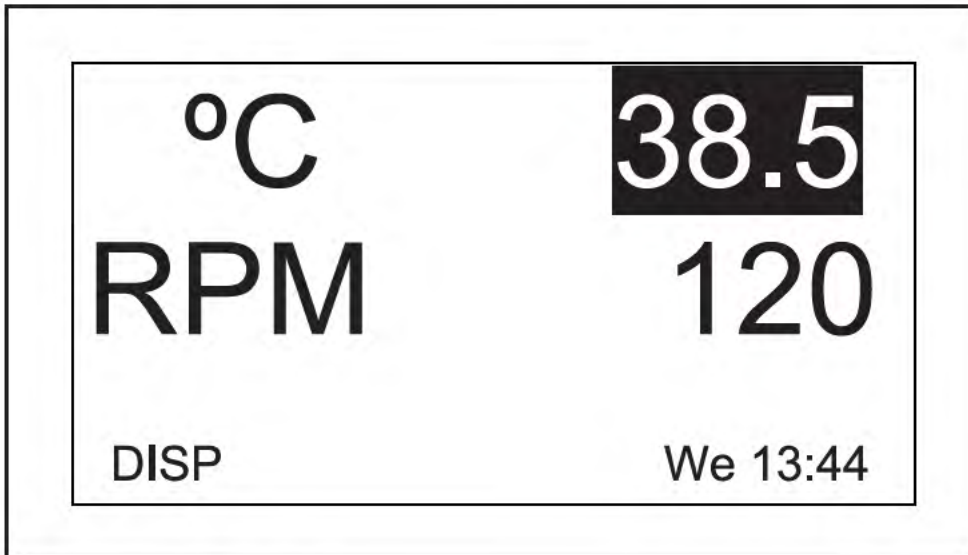

Fig. 9-3: Changing setpoint
2. Click the knob in to display the current setpoint (in this example, 38.5 (see Fig. 9-3 on p. 52)), which will flash.